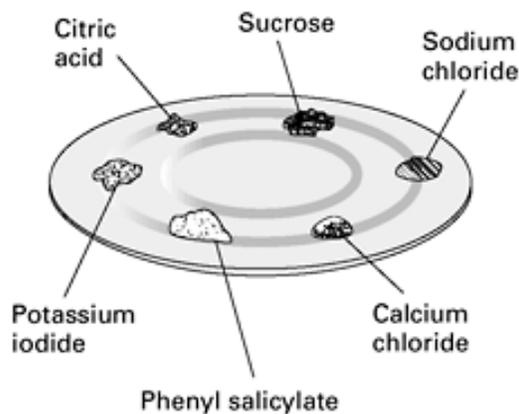

Figure 2
6. Place a few crystals of sucrose, sodium chloride, phenyl salicylate, calcium chloride, citric acid, and potassium iodide in separate locations on the lid, as shown in **Figure 2**. Place the same amount of each crystal on the tray. Do not allow the samples of crystals to touch. Draw and label a diagram that shows the position of each compound.